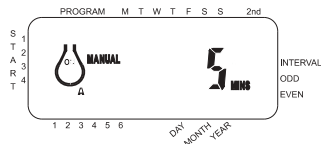

Figure 13: Manual Watering Station 3 for Five Minutes
- To skip a station, press next until the cursor is blinking over the station number you wish to program. (Example: To set station 3 for five minutes, press the manual key; then press the Next key five times to select the manual operation mode and advance to watering for station 3; using the + or - key, set the manual watering duration to five minutes; press Enter.) (See Figure 13)